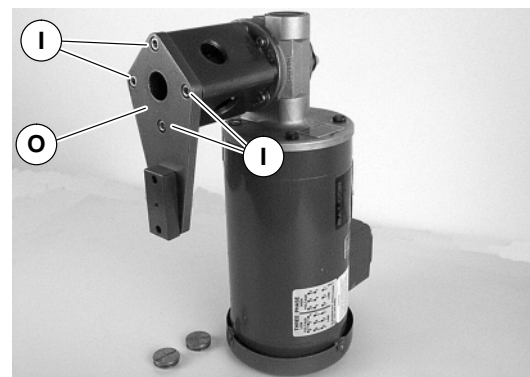

Figure 12
- 4.** Remove four (4) screws (I of Figure 12) and remove mounting bracket & tube (O).
14. Attach mounting bracket & tube (O of Figure 12) to gearmotor. Tighten screws (I) to 103 in-lb (12 Nm).